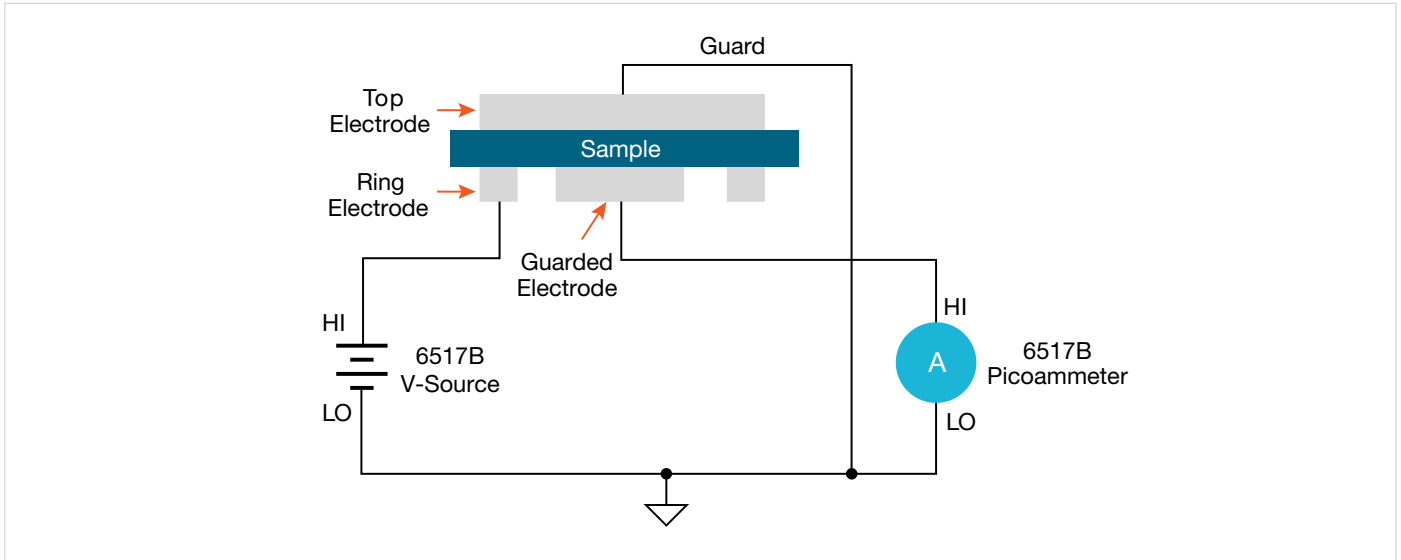
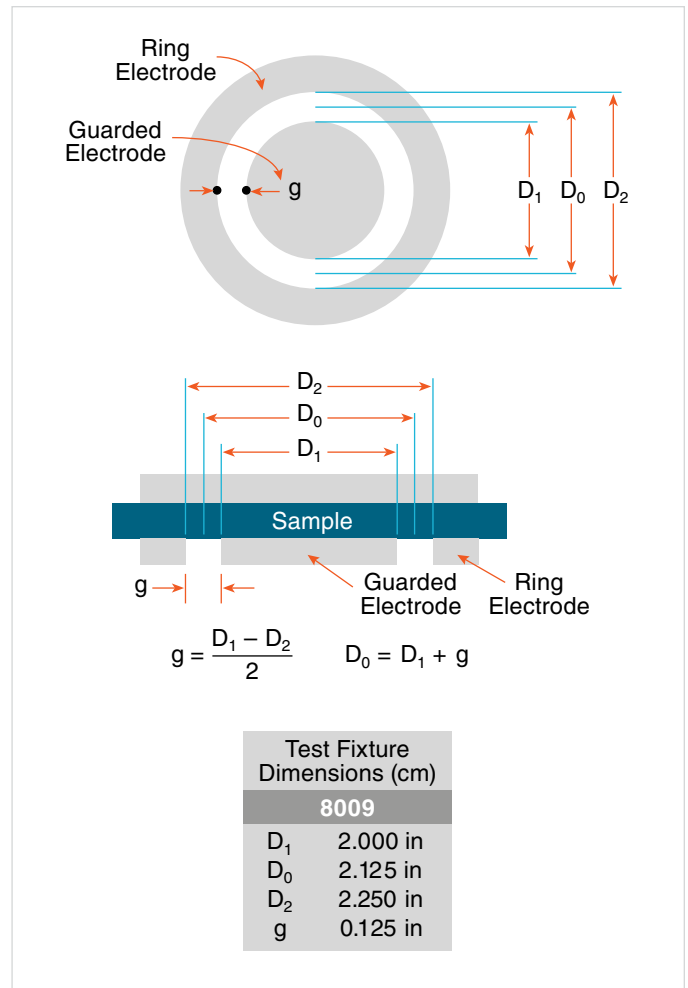
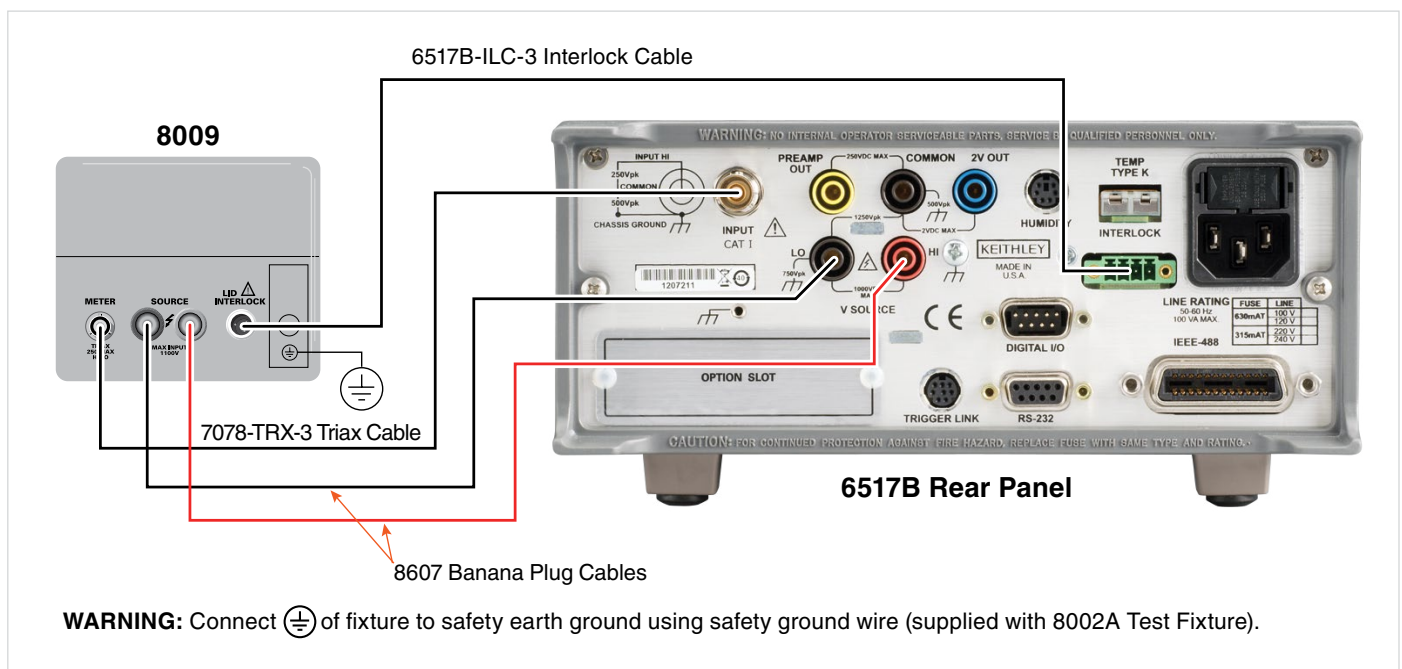

Figure 1. Surface resistivity measurement technique.
Figure 2. Circular electrode dimensions
Figure 4. Connections for measurements using 8009 Test Fixture
Surface resistivity is measured by applying a voltage potential across the surface of the insulator sample and measuring the resultant current as shown in **Figure 1**. The 6517B automatically performs the following calculation and displays the surface resistivity reading:
$g$  = distance between the guarded electrode and the ring electrode (mm). Refer to **Figure 2** to determine dimension  $g$ .
$D_0 = D_1 + g$  (refer to **Figure 2** to determine dimension  $D_0$ ).
1. Refer to **Figure 2** to determine dimensions  $D_1$  and  $g$ .
As discussed, these measurements are made using an electrometer or picoammeter, voltage source, and a resistivity chamber, as shown in **Figure 4**. The 6517B Electrometer includes a 1000 V voltage source that can be used for this application. The 6517B and its predecessor, the 6517A, have a long history in making quality insulation resistivity measurements. The Keithley 8009 Resistivity Chamber contains an electrode configuration like the one shown in **Figure 2**. In the chamber the electrodes are located in a shielded box to minimize stray electrostatic pick-up, which can cause measurement errors. The electrodes are made of stainless steel and are built to ASTM standards and are compatible with the IEC standard.
The standard resistivity test method for an insulator involves applying a voltage step with the V-source for a specified period of time (electrification time). At the end of the electrification time, the current is measured and resistivity can be calculated using the formulas for surface and volume resistivity that are noted earlier in this document. When used with the 8009 Resistivity Test Fixture, the test conforms to the ASTM D-257 and IEC 62631-3-1 standards. **Figures 1 and 3** show the test circuits for the respective measurements, and **Figure 4** shows the connections to the 8009. Refer to the instruction manual for the 8009 to install the insulator sample in the test fixture.
The Alternating Polarity Resistance/Resistivity test is designed to improve high resistance/resistivity measurements. These measurements are prone to large errors due to background currents. These background currents can arise from many sources including: residual currents from previous voltages applied to the sample, and currents generated due to piezoelectric effects, triboelectric effects, temperature, or mechanical stress. By using an alternating stimulus voltage, it is possible to eliminate the effects of these background currents. The built-in Alternating Polarity test sequence will measure surface or volume resistivity or resistance. **Figures 1 and 3** show the test circuits for the respective measurements, and **Figure 4** shows the connections to the 8009. Refer to the 8009 Instruction Manual for information on installing the sample in the test fixture.